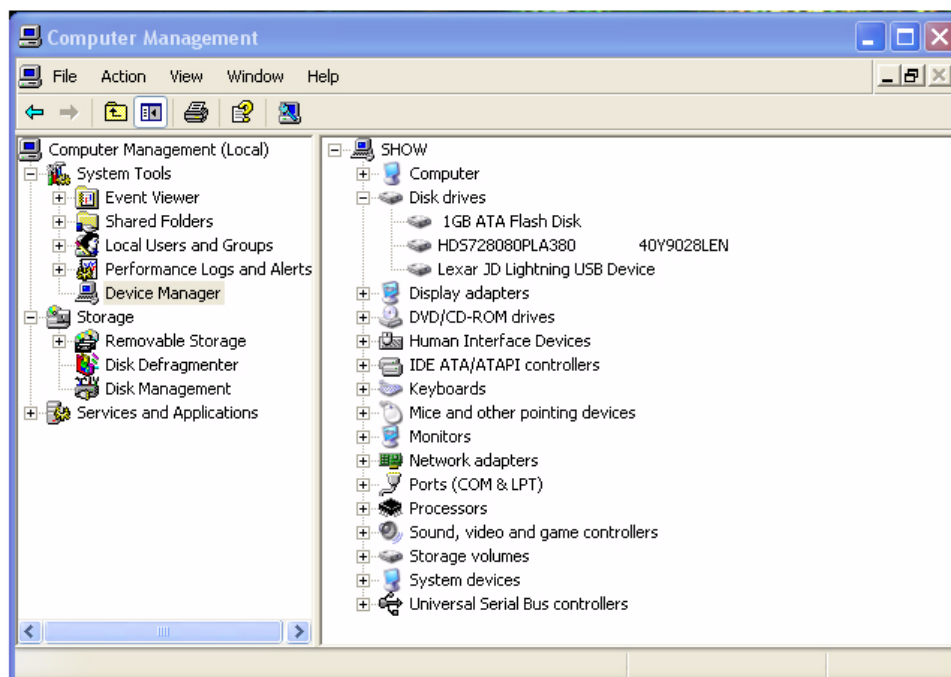

Figure 5: Device Manager
3. In the left-hand pane of the **Computer Management** interface, click on **Device Manager**. The NANDrive will appear in the right-hand window under **Disk Drives**. See Figure 5.